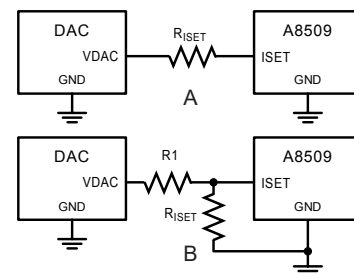

Figure 17. Typical application simplified diagram of voltage LED current control using a DAC to control LED current.
The A8509 can also be dimmed by using an external DAC or other voltage source applied either directly to the ground side of the RISET resistor or through an external resistor to the ISET pin (see figure 17). The ISET current can be varied in the range between 34 μA and 130 μA.
- For a single-resistor configuration (panel A of figure 17), the ISET current is controlled by the following formula:
- For a dual-resistor configuration (panel B of figure 17), the ISET current is controlled by the following formula: